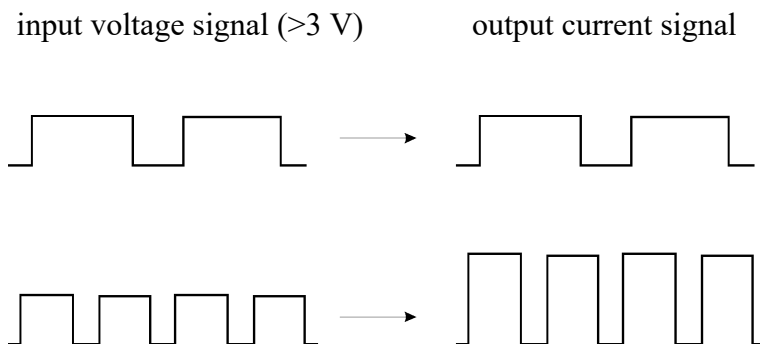

Figure 4: input-output relation using GATE (TTL) STEP SIZE
(28) GATE (TTL) STEP SIZE connector
With this input a current step (gated stimulus) can be generated set by the digital potentiometer STEP SIZE (7) and the polarity switch (27). This current step is gated by a positive digital pulse (3-5 V) applied to the BNC connector. Two examples are given in Figure 4. The duration of the current step is determined by the duration of the gating signal. The amplitude of the current step is set by STEP SIZE (7).